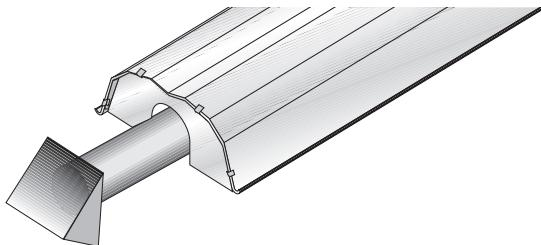

Figure 18. Vent Terminal for Unvented Unit
- The heater may be installed unvented in accordance with building ventilation codes and with the **Clearances** section if sufficient ventilation is provided in the amount of 4 CFM (US) or 3 CFM (Canada) per 1,000 BTUh firing rate.
- A turndown-type vent terminal (see **Figure 18**) with a screen and without a backdraft flap must be installed at the exhaust end of the tube.